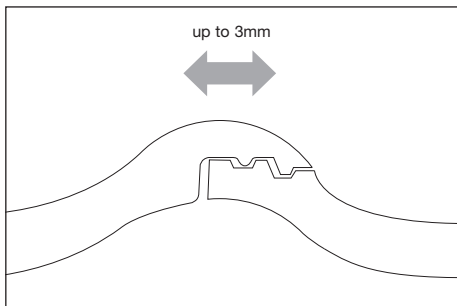

Fig. 6 – Interlocking tile 3mm 'shunt'
- 3 Marley Eternit interlocking tiles allow a tolerance ('shunt') of approximately 3mm in side lock for adjustment (Fig. 6).